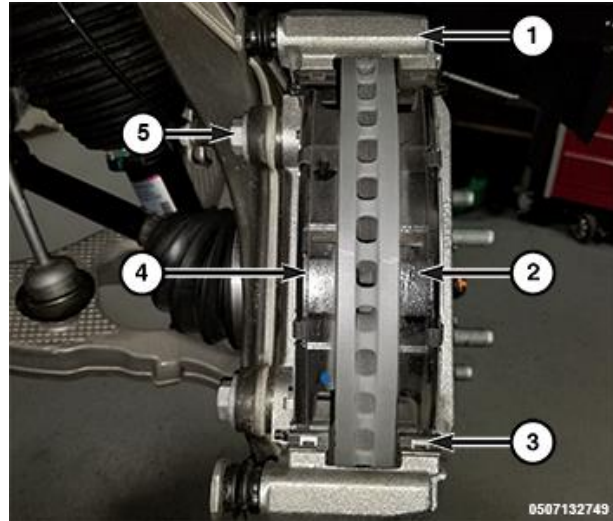

Figure 5 – Front Caliper Adapter Bolts
10. Remove and DISCARD the two front caliper adapter bolts (5) (Figure 5).